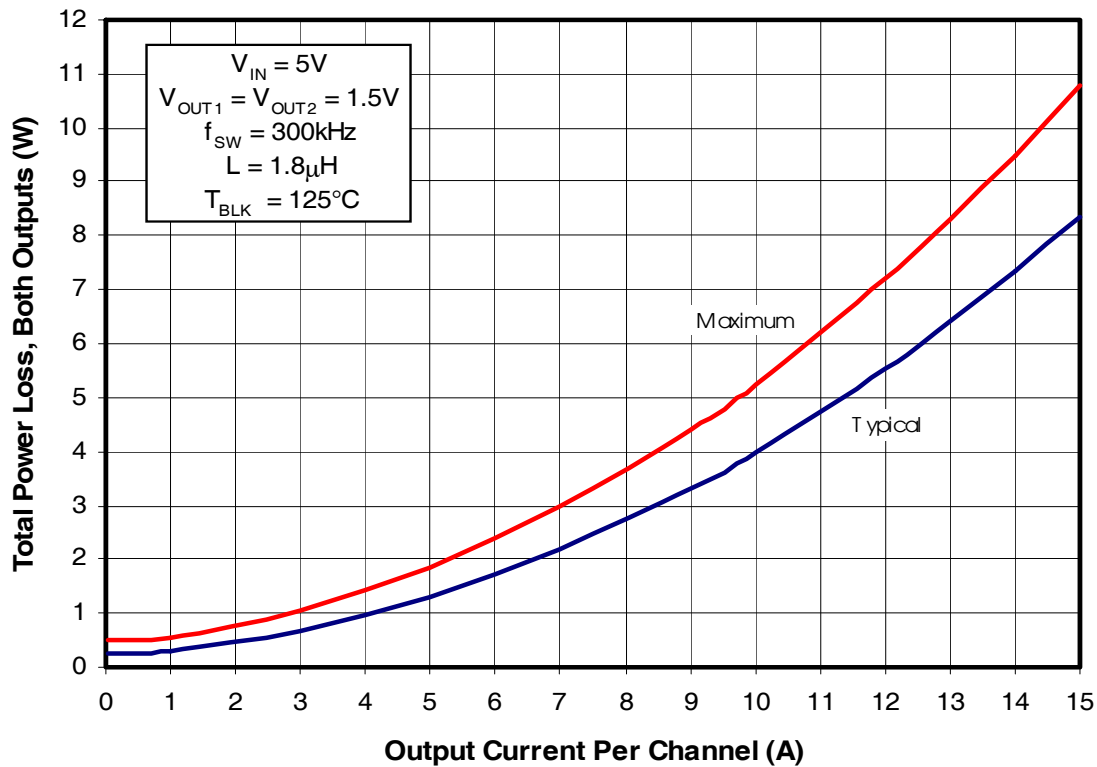
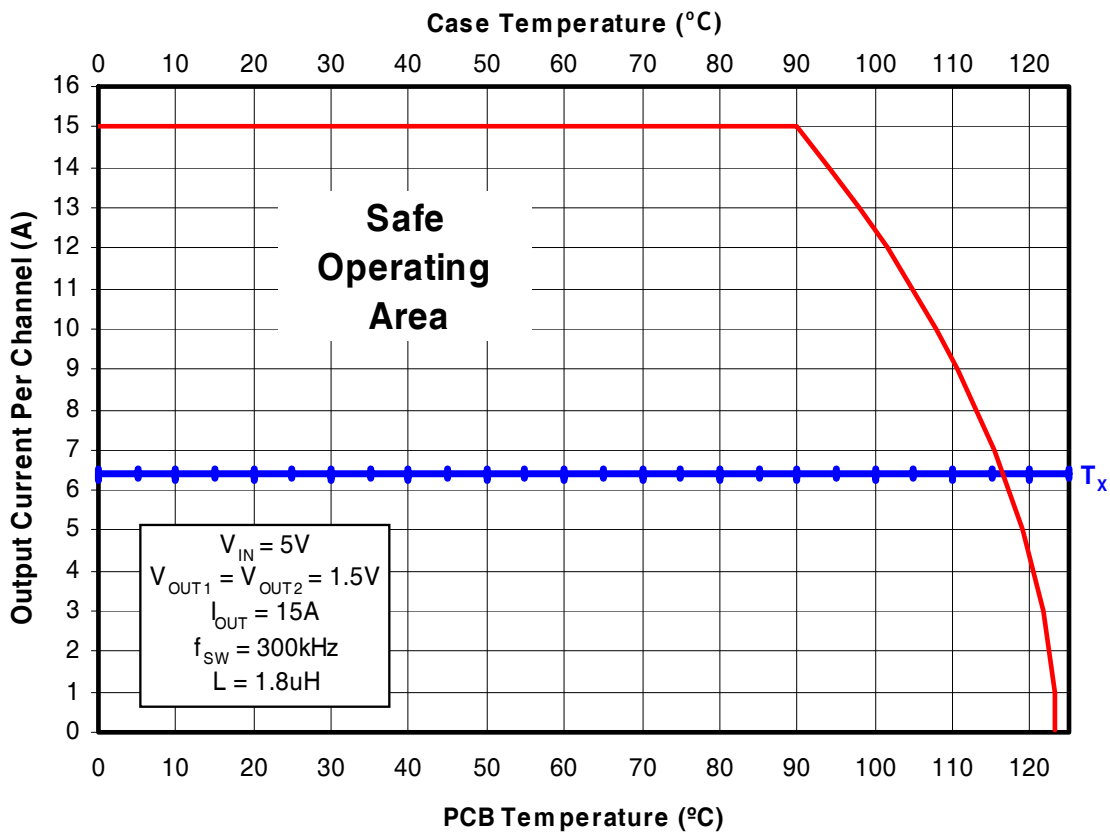
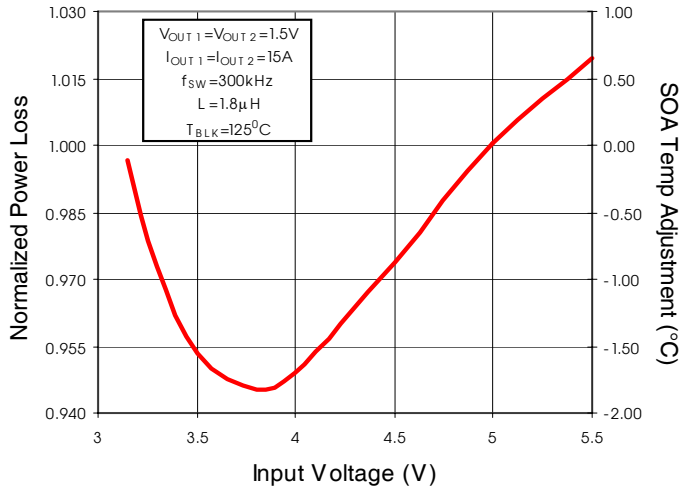

Fig. 2: Power Loss vs. Current
Fig. 3: Safe Operating Area (SOA) vs. T_{PCB} & T_{CASE}
Fig. 4: Normalized Power Loss vs. V_{IN}
To make adjustments to the power loss curves in Fig. 2, multiply the normalized value obtained from the curves in Figs. 4, 5, 6 or 7 by the value indicated on the power loss curve in Fig. 2. Remember that the power loss in Fig. 2. is the power loss for 2 outputs operating with the same output voltage. If differing output voltages are used the initial power loss for each channel needs to be divided by 2. Then if multiple adjustments are required, multiply all of the normalized values together, then multiply that product by the value indicated on the power loss curve in Fig. 2. The resulting product is the final power loss based on all factors. See example no. 1.
To make adjustments to the SOA curve in Fig. 3, determine your maximum PCB Temp & Case Temp at the maximum operating current of each iP1201PbF. Then, add the correction temperature from the normalized curves in Figs. 4, 5, 6 or 7 to the T_x axis intercept (see procedure no. 2 above) in Fig. 3. When multiple adjustments are required, add all of the temperatures together, then add the sum to the T_x axis intercept in Fig. 3. See example no. 2.
- Output1 (Fig. 2) Maximum power loss = 5.3W / 2 = 2.65W
(Fig. 4) Normalized power loss for input voltage ≈ 0.97
- Output2 (Fig. 2) Maximum power loss = $8.25W / 2 = 4.13W$
- Output1 (Fig. 4) Normalized SOA Temperature for input voltage $\approx -1.0^{\circ}\text{C}$
- Output2 (Fig. 4) Normalized SOA Temperature for input voltage $\approx -1.0^{\circ}\text{C}$